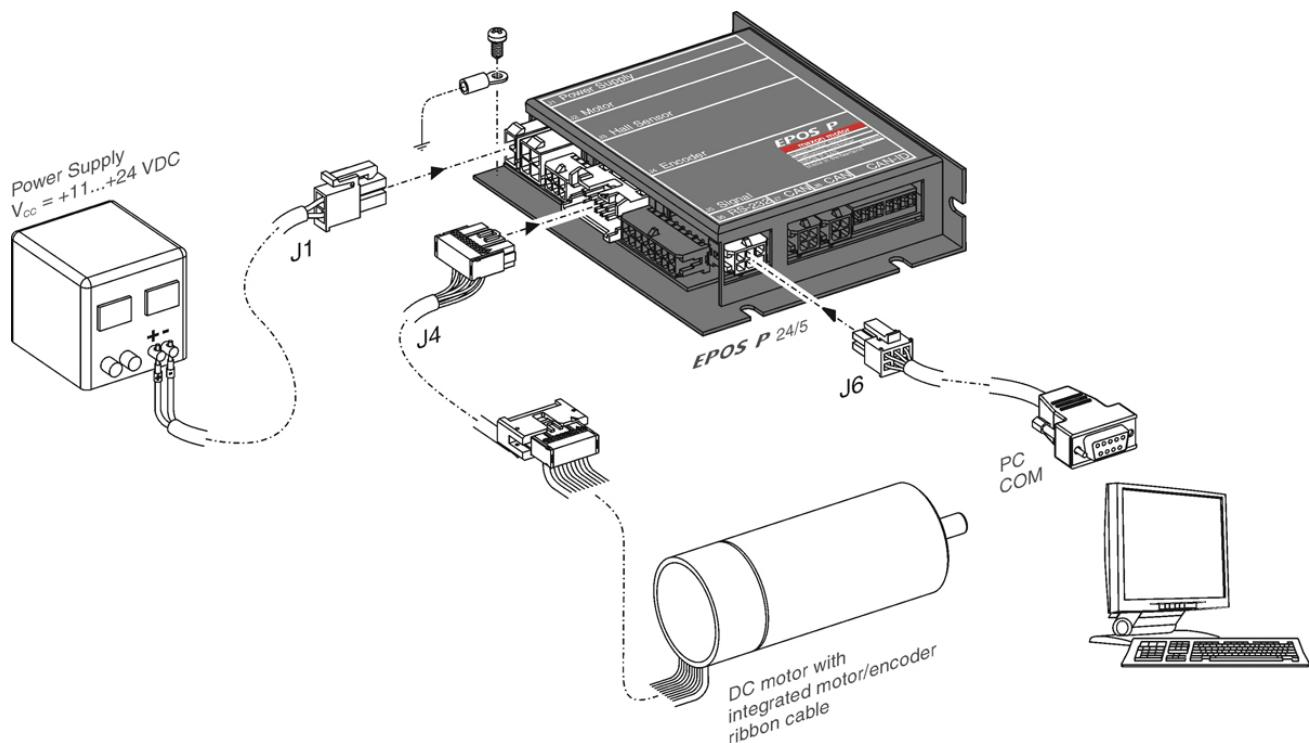

Figure 3-6 Minimum Wiring: maxon DC motor with integrated motor/encoder ribbon cable
- 2) Connect maxon cable assemblies (→Table 3-6 and Figure 3-6).